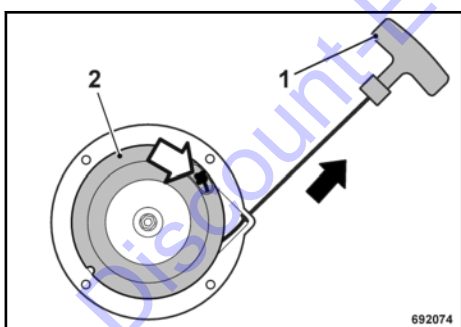

Fig. 49
Pull the starter rope with the starter handle (1) out completely ➤ Fig. 49.